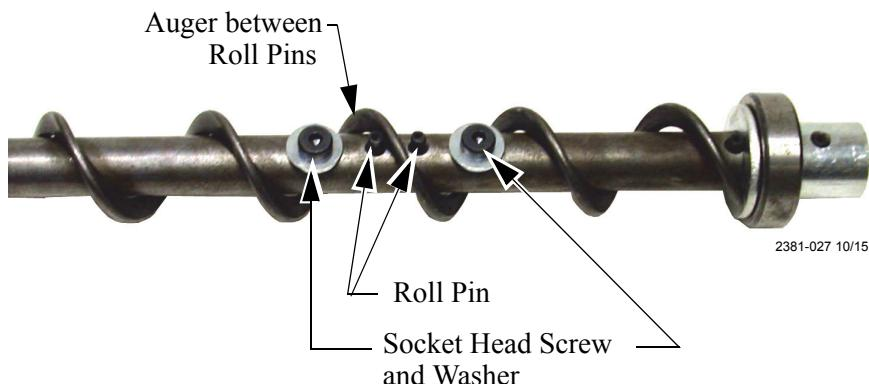

Figure 60. Auger and anchor Bearing Connection
1. Insert the anchor assembly into the auger until it touches the washer at the back of the anchor. Tighten the setscrews in the center of the anchor until they touch the auger, then tighten a maximum of 1/2 turn. See **Figure 60..**